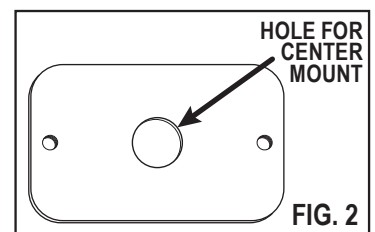

FIG. 2
CENTER HOLE TRUNNION STYLE MOUNTING - Using provided hardware (2) screws, (2) washers, (2) split washers mount plate in desired aiming direction with the center mount bolt and tighten. Place Predator mount bracket over center mount plate (adjust cord to exit the wire opening) (see fig 2).